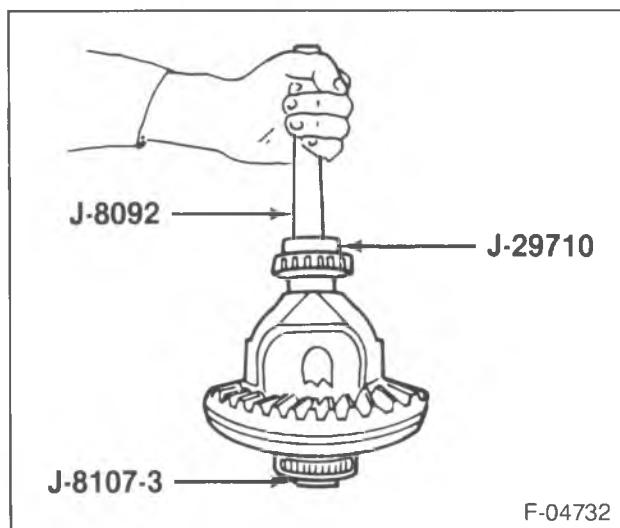

Figure 20—Side Bearing Installation
- Differential side bearings (22) using J 29710, J 8107-3 and J 8092 (figure 20).